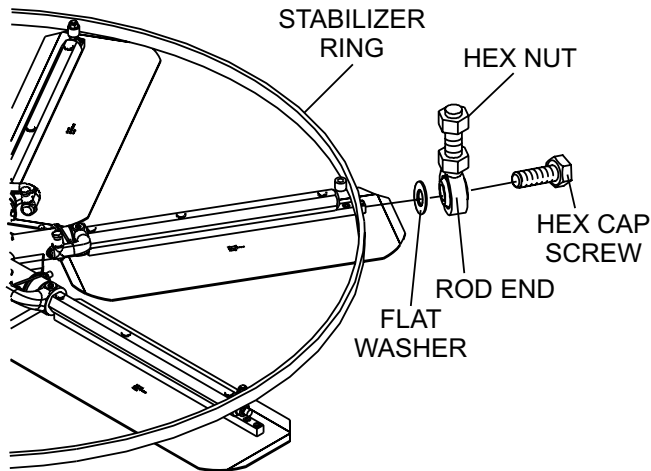

Figure 32. Stabilizer Ring Removal
5. To remove the outer stabilizer ring, (Figure 32), remove the six bolts at the end of each spider arm.